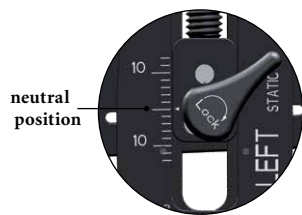

Fig. 14
Before continuing, make sure your Adjusting Device is positioned in neutral position as shown (Fig. 14). Position can be moved upwards (posteriorly) and downwards (anteriorly) by turning the Adjusting Screw. Take the Tissue Protection Sleeve and the Drill Sleeve, then mount the assembly into the proximal targeting hole of the Adjusting Device (Fig. 15 ②) by pressing the Sleeve Fixation Button on the Adjustment Device (Fig. 15 ①). The Adjusting Device has Sleeve Fixation Buttons providing friction lock of the sleeve assembly. The sleeve has a free movement when the Button is pressed and locks when the Button is released.